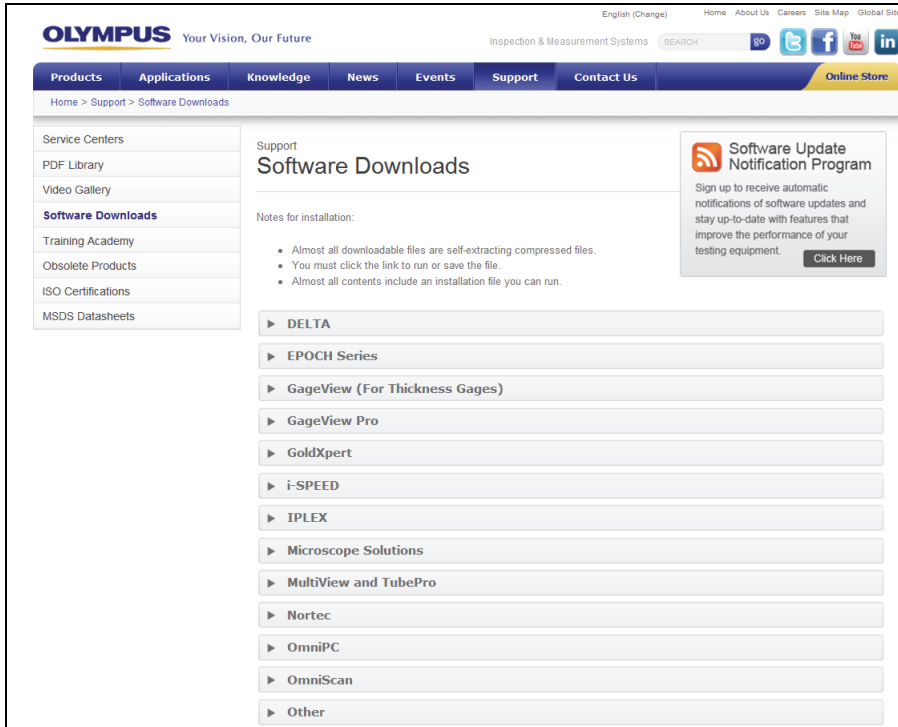

Figure 4-1 Selecting Software Downloads on the Support menu
2. On the **Support** page of the Evident website, on the menu on the left, click **Software Downloads** (see Figure 4-1 on page 76).